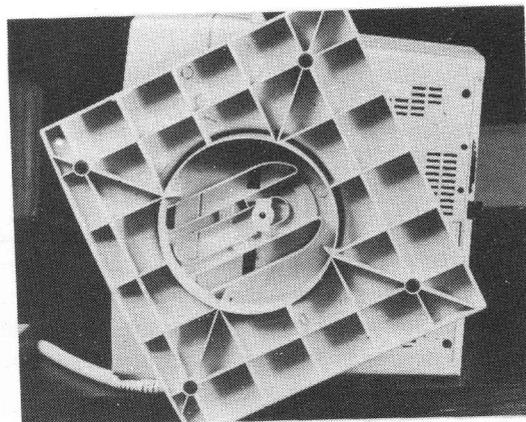

Figure 2-1. Attaching Pedestal to Console
2.1.2 Attaching Pedestal to Console. To attach pedestal to console, place console on a sturdy flat surface with bottom facing out and protruding slightly over the edge. Place slotted center of pedestal over large tab of console and line up two smaller tabs on console with grooves on pedestal. Turn pedestal clockwise so that the two small tabs enter grooves. See figure 2-1.